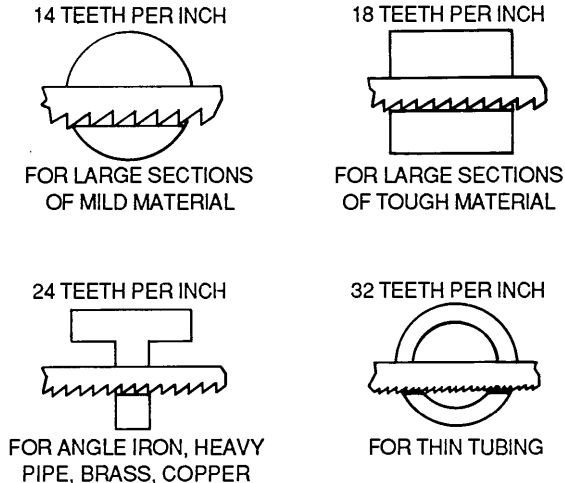

Figure 4-98. Application of Blade Pitch for Certain Materials
(2) **Stock hardness.** Generally speaking, the pitch of the blade depends on the hardness of the stock. Figure 4-98 shows the typical applications for the different saw blade pitches.